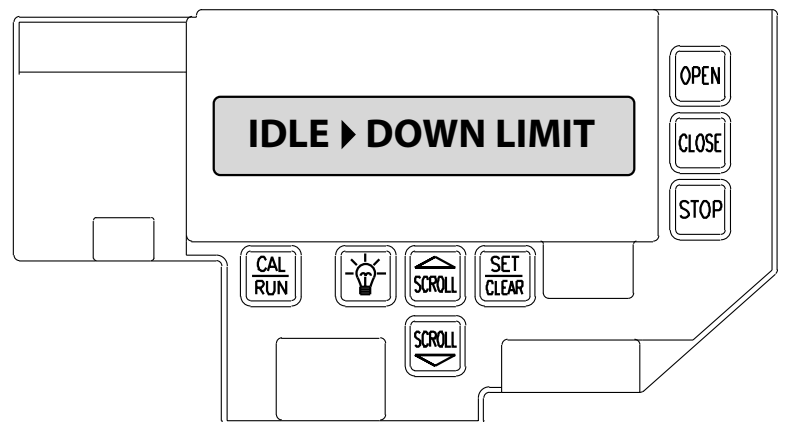

Fig. 7
7. Push LIMIT LOCKING BAR away from Limit Sensors and turn Close Limit Travel Nut until travel nut arrow and close limit sensor arrow are aligned and the display reads "IDLE > DOWN LIMIT." Fig. 7.